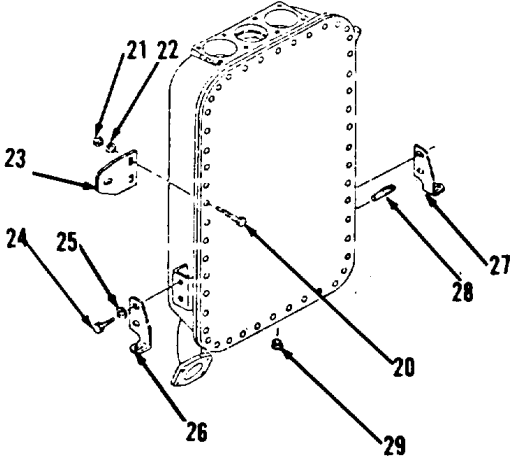
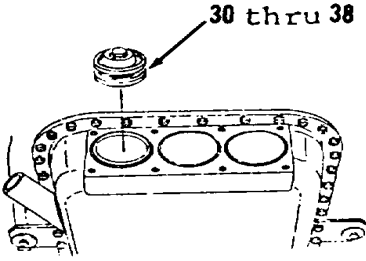

Figure 10-152.
Figure 10-153.
- 1. Remove two bolts (20), nuts (21), washers (22) and plate (23, Figure 10-152).
- 2. Remove four bolts (24), washers (25) and brackets (26 and 27).
- 4. Remove two items 30 thru 38 as an assembly (Figure 10-153).